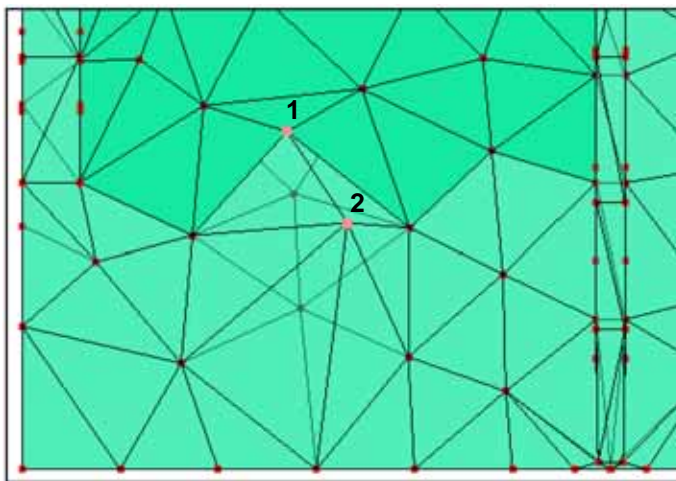

Figure 160: Nodes to be smoothed
- 4.1. Select the 2 nodes labeled 1 and 2 in Figure 160.